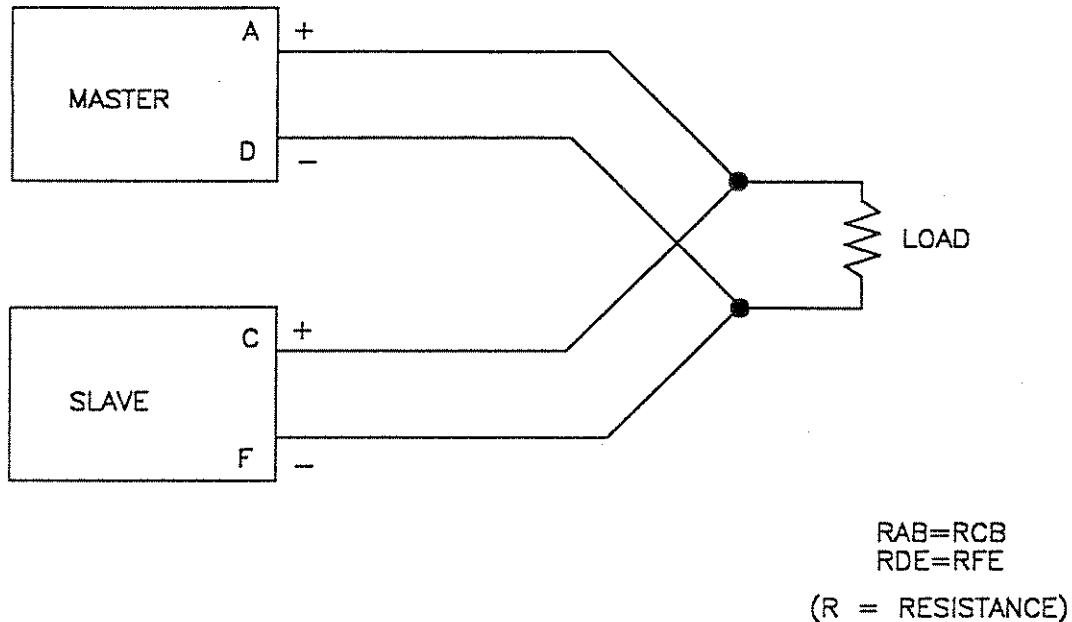

Figure 11: Parallel Connection - Master / Slave
4. See Figure 11 for output to load connections.